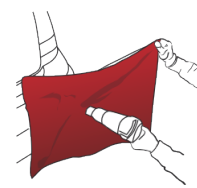
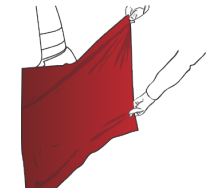
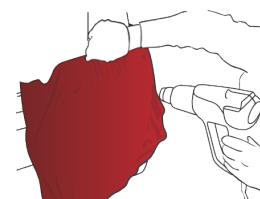

Figure 19
Figure 20
Figure 23
- ▶ Heat the vinyl (FIG. 19) to a temperature ranging from 30 °C to 40 °C (from 86 °F to 104 °F), then stretch the film so as to completely wrap the convex surface. (FIG. 20)
- ▶ After this operation, heat to a temperature ranging from 30 °C to 40 °C (from 86 °F to 104 °F) (FIG. 23) and stretch to eliminate all folds using the squeegee.
- ⚠ *Take particular care when heating the stretched film (FIG. 19) (FIG. 23). The hot air gun or the gas torch must never be held at a right angle to the surface of the film. It should be inclined so as to heat a larger surface area. Keep the hot air gun moving all the time. Heating the film from a reduced distance and over a prolonged time may irreversibly damage the film.*